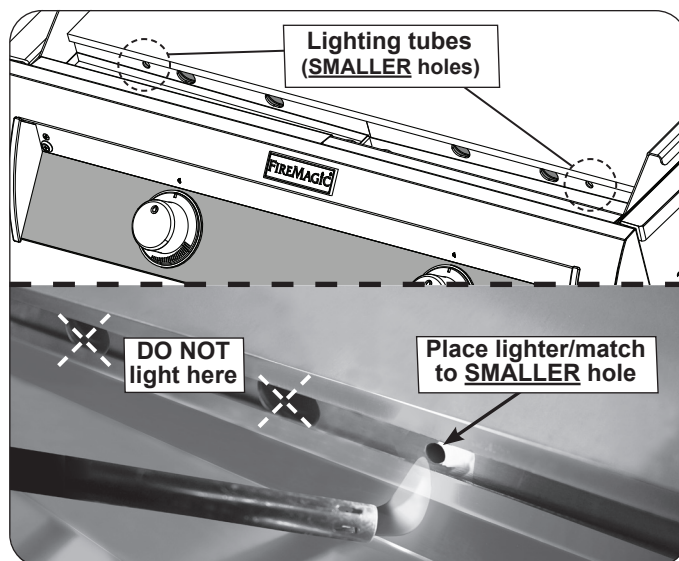

Fig. 37-3 Manual lighting
**CAUTION:** Always wait five (5) minutes for gas to clear after any unsuccessful lighting attempt.
2. Hold a burning long-barrel butane lighter or burning long-stem match up to the opening of the lighting tube (**SMALLER hole**) **for 5 seconds**. Then depress the appropriate control knob and while pressing turn it counterclockwise to the **HI LIGHT** position. Remove the lighter or match when the burner lights, and release the control knob. See Fig. 37-3.
**CAUTION:** If the burner does not light within five (5) seconds of turning the control knob, **immediately depress the knob and turn the valve to OFF**. **WAIT FIVE (5) MINUTES** before repeating step 2 **MANUAL LIGHTING** instructions.